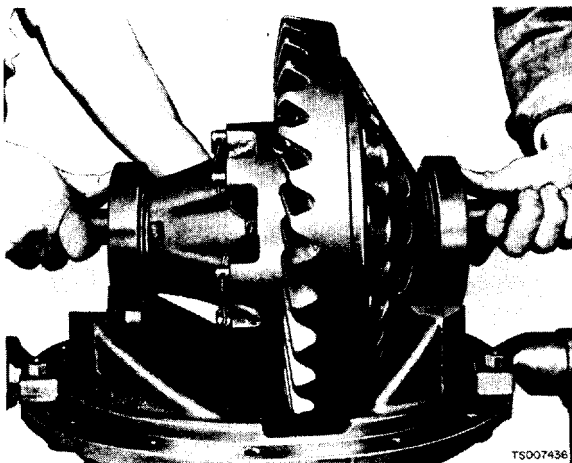

Figure 10-8. Differential Removal.
- (2) Cut lockwire and remove bearing cap-screws, bearing caps, and adjusting nuts.
- (3) Lift out differential as shown in figure 10-8.